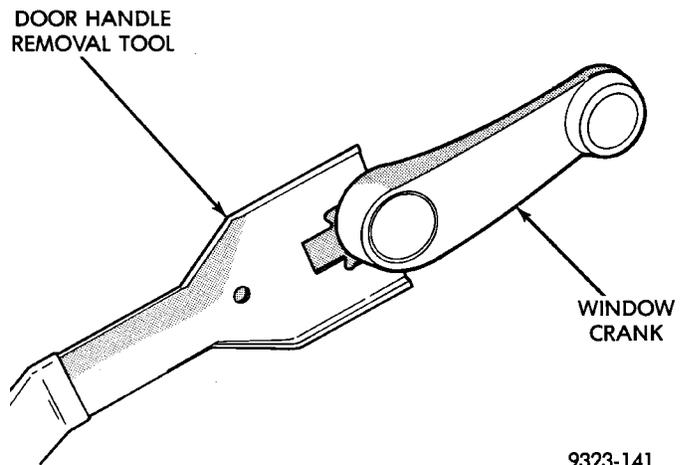

Fig. 8 Window Crank
- (1) Release door latch and open door.
- (2) Lower door glass.
- (3) Remove window regulator crank, if so equipped (Fig. 8).